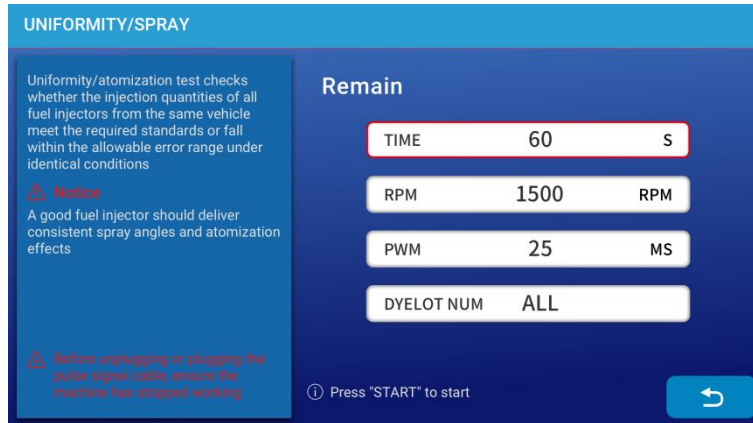

Figure 5.11
- 5) Click **[Uniformity/Spray]** button on the main interface as shown in Figure 5.11, set corresponding operating parameters and then press **[Start]** button to start the test (**Note: Press or release the fuel drain button during the operation to drain or stop draining oil**); the system pressure can be adjusted by **[Pressurization ⊕]** and **[Depressurization ⊖]** buttons on the control panel.